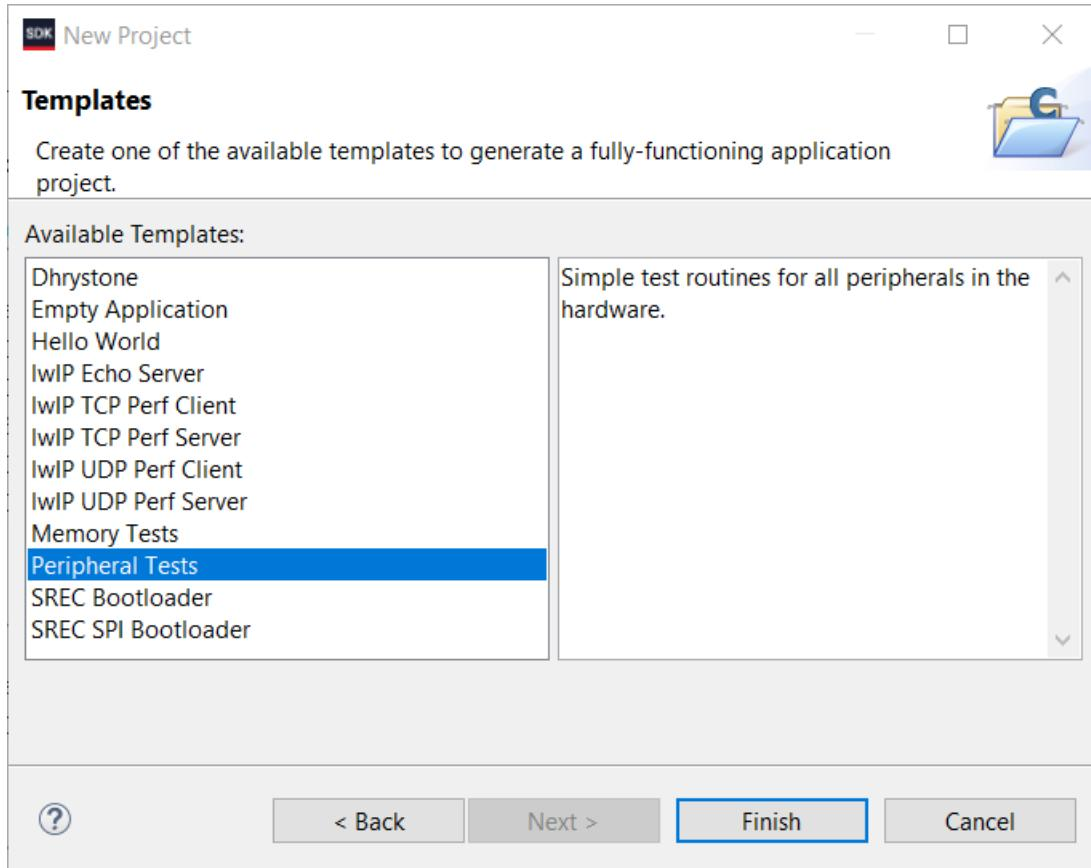

Figure 112: New Project: Template Wizard
4. Type a name (such as peri_test) for your project and choose standalone as the OS platform, as displayed in Figure 112.